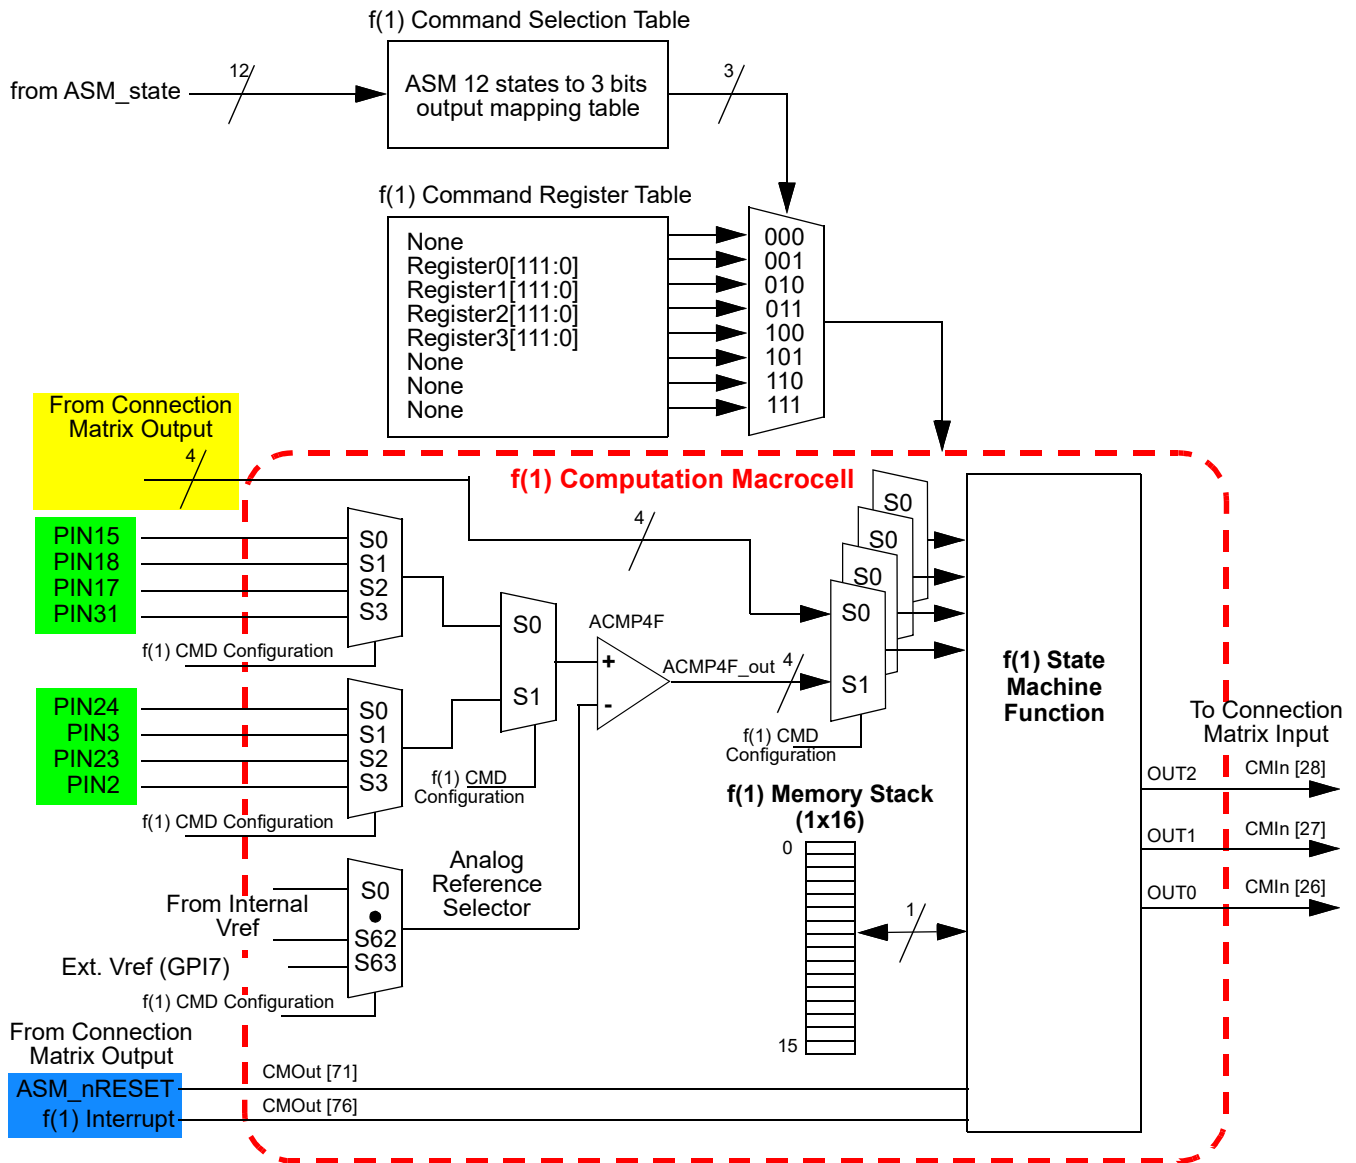

Figure 126: f(1) Computation Macrocell Input Signals
17.3 F(1) COMPUTATION MACROCELL INPUT SIGNALS
The f(1) Computation Macrocell has 6 digital input signals, ASM_nReset, f1_Interrupt, and four inputs from Connection Matrix outputs. An active signal on either of the first 2 inputs will immediately halt any command execution for the f(1) Computation Macrocell, and will immediately relinquish control back to the ASM macrocell. The ASM_nReset is a level sensitive signal, and active low. The f1_Interrupt is a level sensitive signal, and active high. These signals are shown in Figure 126, highlighted in blue. Also there are 4 digital inputs from the Connection Matrix, which can be routed to any Connection Matrix outputs from the f(1) Commands. These signals are shown on Figure 126, highlighted in yellow.